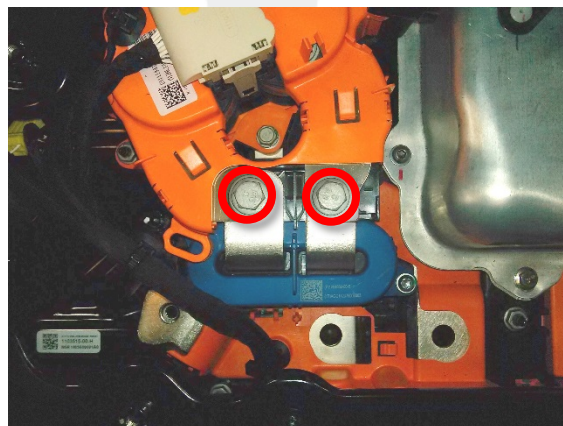

Figure 1
5. Remove and discard the bolts that attach the HV battery fast charge contactor to the positive and negative busbars (Figure 1).
7. Install new bolts to attach the HV battery fast charge contactor to the positive and negative busbars, and then mark the bolts with a paint pen after they are torqued (torque 5 Nm +60°) (Figure 1).